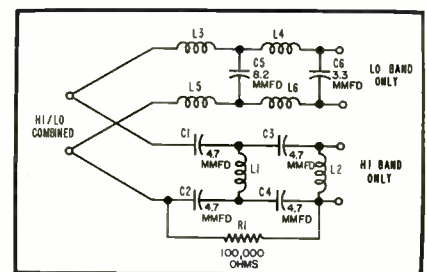

FIG. 3: HIGH-BAND LOW-BAND TV coupler circuit consisting of multi-section high-pass and low-pass filters.
If there is a loss of gain in the phono system and the cartridge is suspected, it can easily be checked with a *vtvm* and an average phonograph record (Fig. 3). Of course the reading will not be at all consistent due to the music on the record, but it will indicate whether the cartridge is putting out a substantial voltage or not.
The high-band low-band TV coupler3 (see Fig. 3) is a multi-section high-pass filter and a multi-section low-pass filter. The low-pass filter has a high frequency cut-off of 125 megacycles to pass channels 2 through 6 and FM. The high-band filter has a low frequency cut-off of 125 megacycles to pass channels 7 through 13. These filters are connected in parallel at the combined input in such a way
shown in Fig. 3. Measure the voltage at each frequency from 50 to 10,000 cycles and plot on semi-log paper with frequency along the horizontal axis and output voltage along the vertical axis.
**FIG. 3: TEST CIRCUIT** for checking output loss and frequency response in phono cartridges. Load resistor is not required for output test but is advisable for checking frequency response.